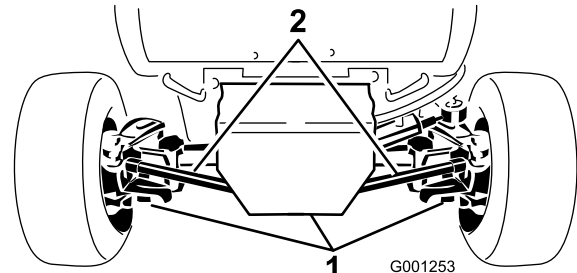

Figure 64
2. Clean the areas around the 3 drain plugs (Figure 64).